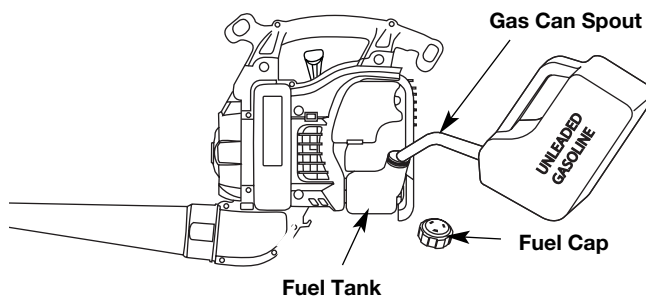

Fig. 13
1. Remove the fuel cap (Fig. 13).
2. Place the gas container's spout into the fill hole on the fuel tank (Fig. 13) and fill the tank.